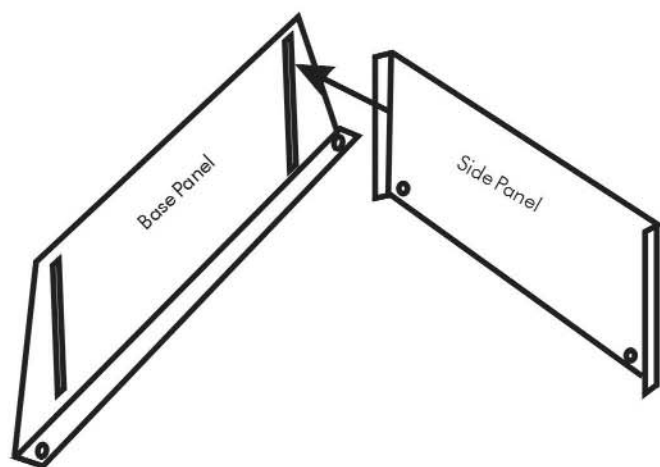

FIGURE 1
- 3) Insert the bent edge of the Side Panel into the appropriate slot on the Base Panel, making sure that the embossed sides are on the outside (see Figure 1). Place the combined Base Panel/Side Panel on a flat surface.